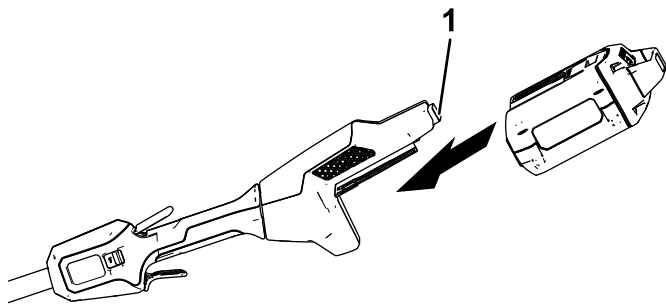

Figure 8
2. Align the cavity in the battery pack with the tongue on the handle housing (Figure 8).
3. Push the battery pack into the handle until the battery locks into the latch (Figure 8).